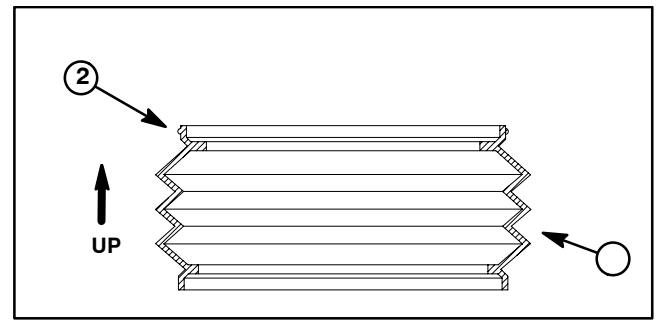
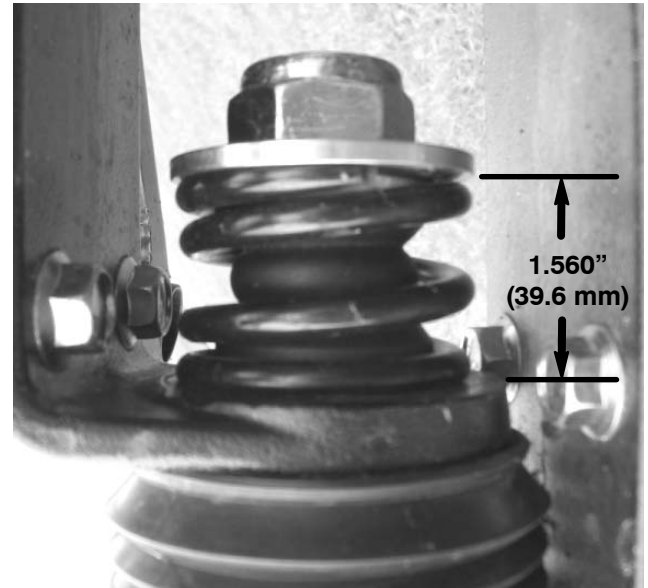

Figure 42
Figure 43
1. If pivot bracket (item 11) was removed from machine, lightly lubricate bushings (item 12) with motor oil before assembly. Connect boom actuator (not shown) to pivot bracket (see Boom Actuator Installation (Machines with Serial Numbers Above 260000000) in this section).
2. Make sure that hinges (item 1) are securely fastened to pivot bracket (item 11) and boom (item 5). The boom hinge uses four (4) backing plates between the boom and flange nuts.
3. Position boom hinge to pivot bracket hinge. Make sure that rubber boots (item 2) are placed at hinge junctions and that rib on boots are toward the top of the boom (Fig. 42).
4. Insert two (2) cap screws (item 9) through flat washers (item 10) and hinges. Place tube (item 17), breakaway spring (item 19), spring retainer (item 18) and lock nut (item 8) on each cap screw. Make sure that shoulder on spring retainer fits into breakaway spring.
5. Tighten lock nuts so there is 1.560" (39.6 mm) between the face of the spring retainer and the hinge casting (Fig. 43).